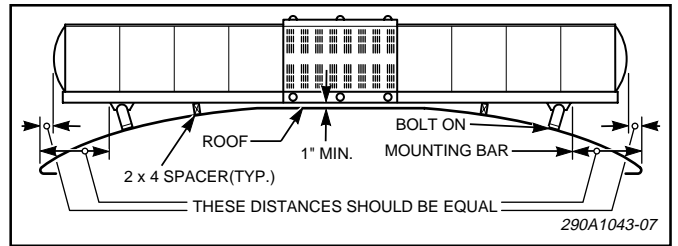

Figure 10.
2. Position the mounting bars so that the contact surfaces are tangent to the roof. Both mounting assemblies should be located in the base of the light (extrusion) so that the roof-to-light clearance (at vehicle center) is at least one-inch (see figure 10). Ensure that the bar ends are equidis-